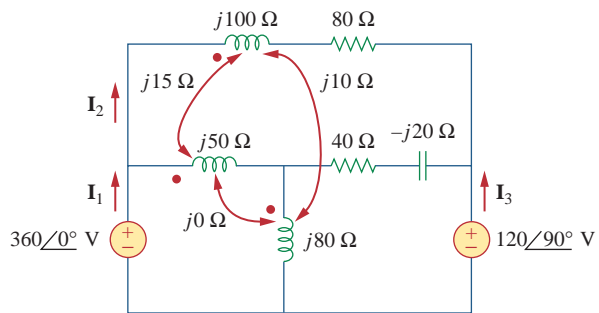

Figure 13.141
13.79 Use PSpice to find I_1 , I_2 , and I_3 in the circuit of Fig. 13.141.